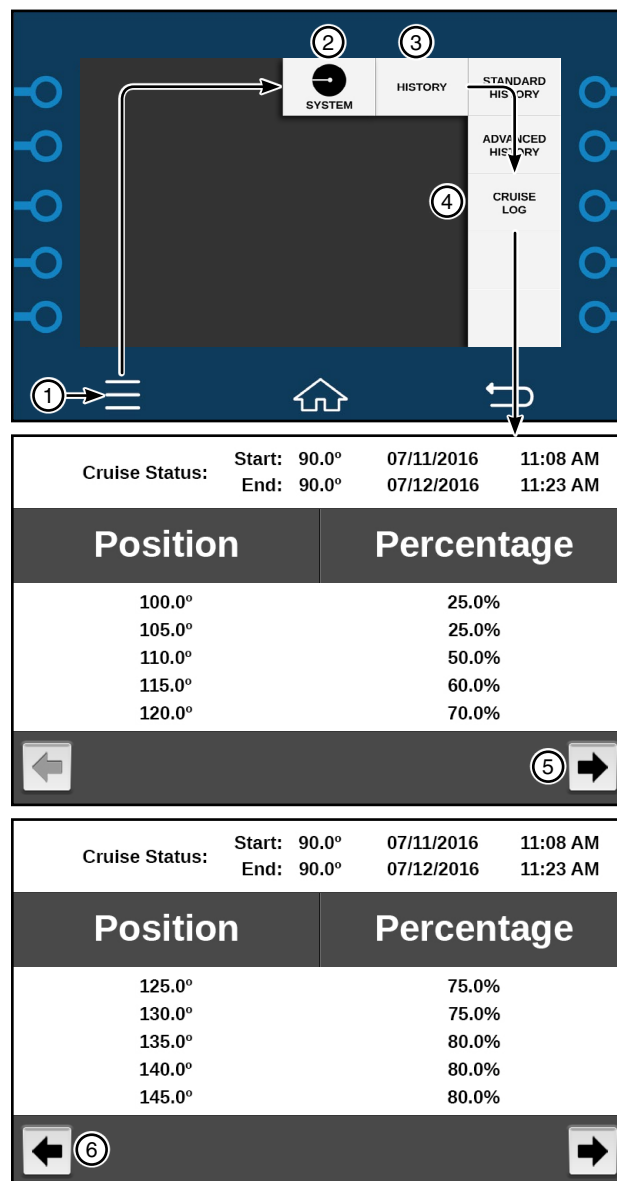

Figure 71-1 1. Menu 4. Cruise Log
1. To view the Cruise Log, push **Menu, System, History, Cruise Log**. See Figure 71-1.